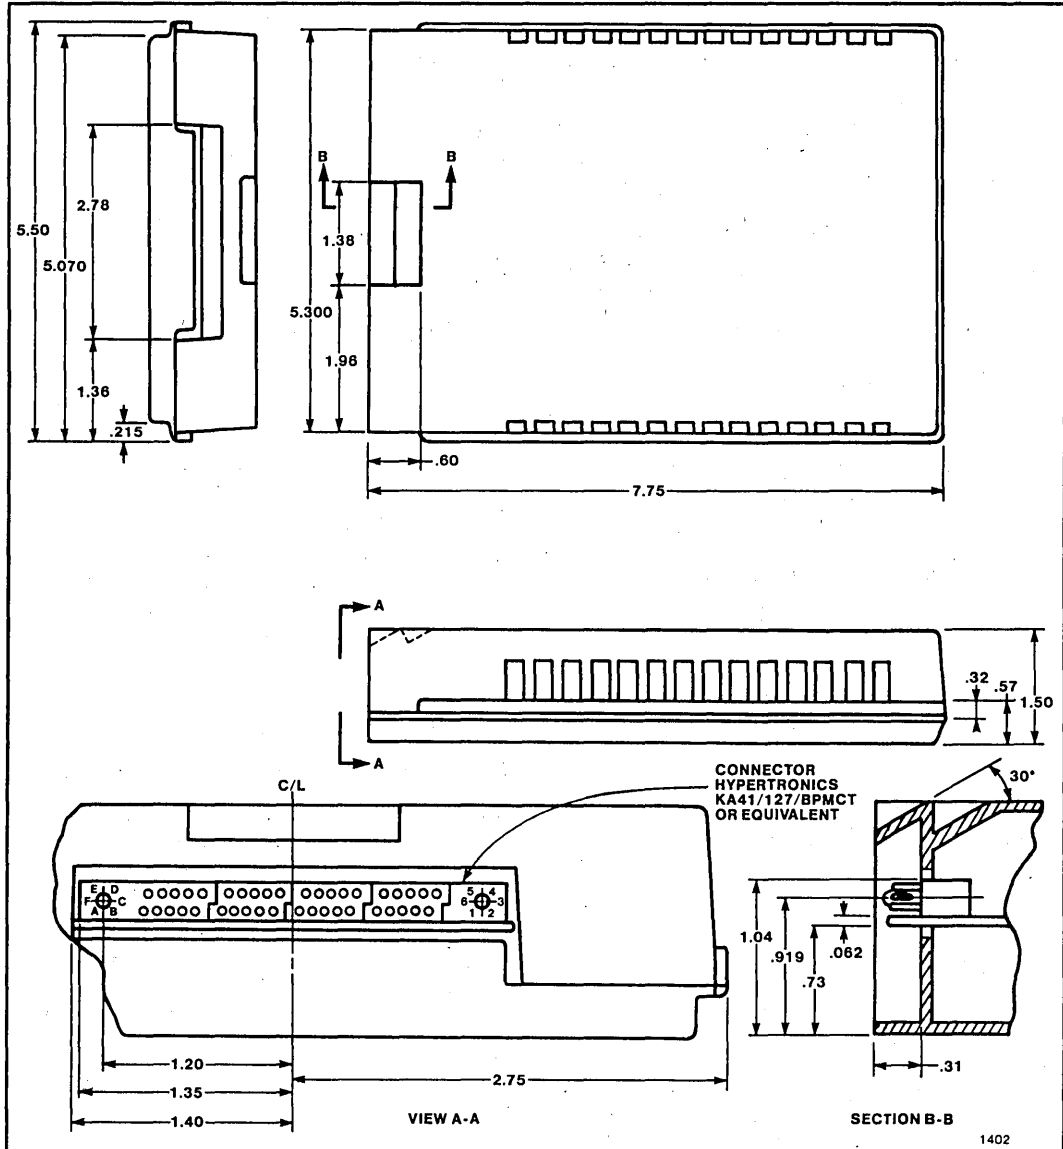

Figure 5. Plug-In Module Mechanical Specifications
The mechanical specifications define the connector requirements and the outline and mounting dimensions for plug-in modules using the iPDx bus. Figure 5 is an outline drawing of a plug-in module for the iPDx bus. All plug-in modules for the iPDx bus must comply with the dimensions specified in Figure 5.
- The first four inches (measured from the connector end) of the plug-in module must meet the mechanical and outline specifications shown in Figure 5.
Plug-in modules for the iPDX bus must have an enclosure that meets the mechanical specifications shown in Figure 5 for the first four inches (measured from the connector end) of the module. Intel has developed a prototyping kit (product code iPDS-PROTO) to simplify the mechanical and hardware portions of the design. This prototyping kit consists of the plug-in module enclosure, a prototyping board, iPDX bus connector, a hardware kit, isolation capacitors, and wire-wrap pins. The iPDS-PROTO kit can accept up to 30 ICs and associated discrete components in the available board space. If a plug-in module designed around the iPDX bus goes to a production phase, use of the module tooling can be licensed through Intel.